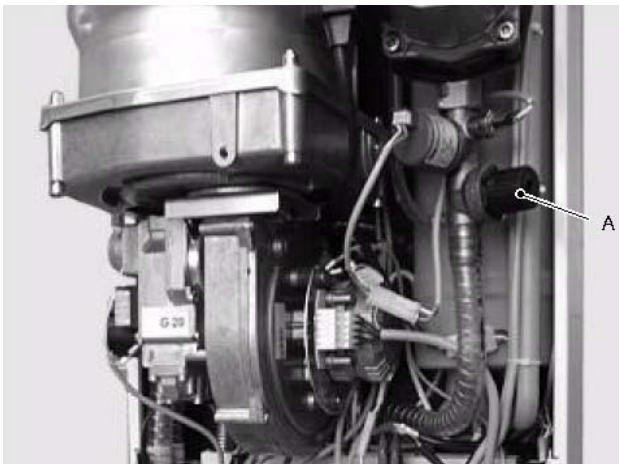

Fig. 28
- 4 By means of a suitable spanner unscrew and remove the valve A (Fig. 28).